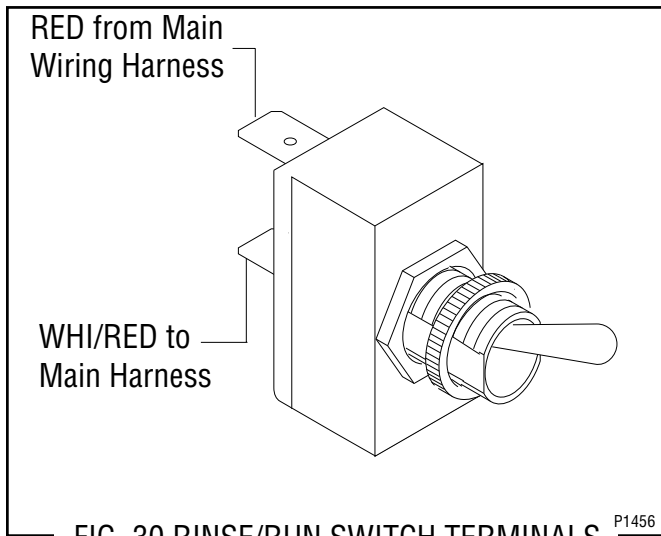

FIG. 30 RINSE/RUN SWITCH TERMINALS
5. Refer to Fig. 30 when connecting wires to the new switch.